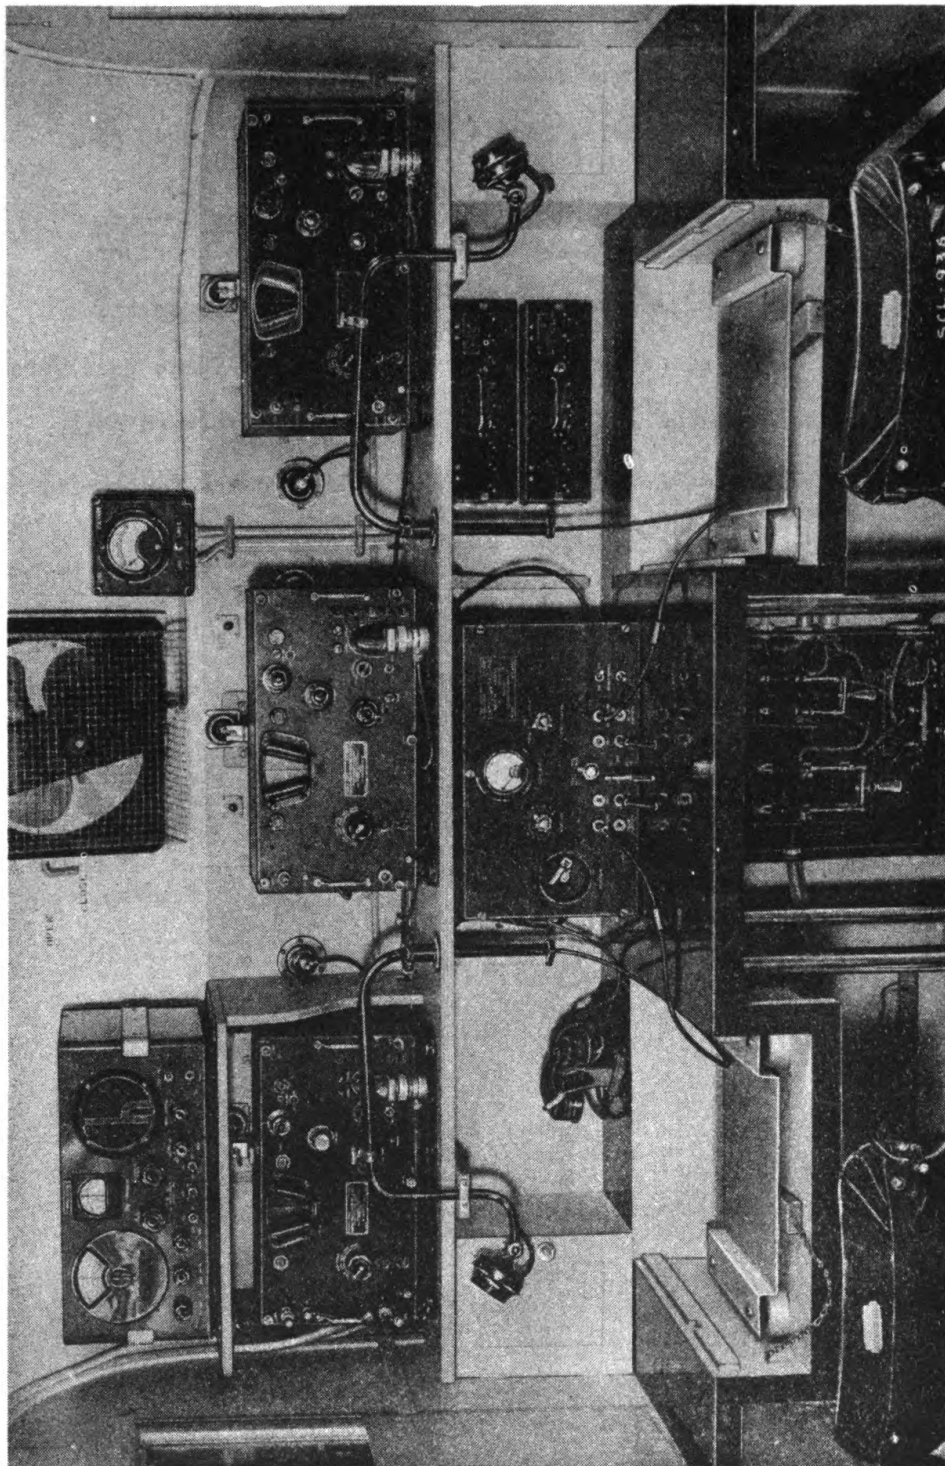

Figure 5. - View of operating table in Trailer K-19-(\*). The wells under the microphones accomodate typewriters.
16. RADIO EQUIPMENT IN TRAILER K-19-(\*). - a. Radio Receiver BC-342-(\*). Three Radio Receivers BC-342-(\*) are installed on the shelf in the forward part of the trailer. (See Fig. 5) These receivers obtain their power from the a-c outlets situated in the forward part of the trailer. Full information concerning Radio Receiver BC-342-(\*) is contained in TM 11-850.